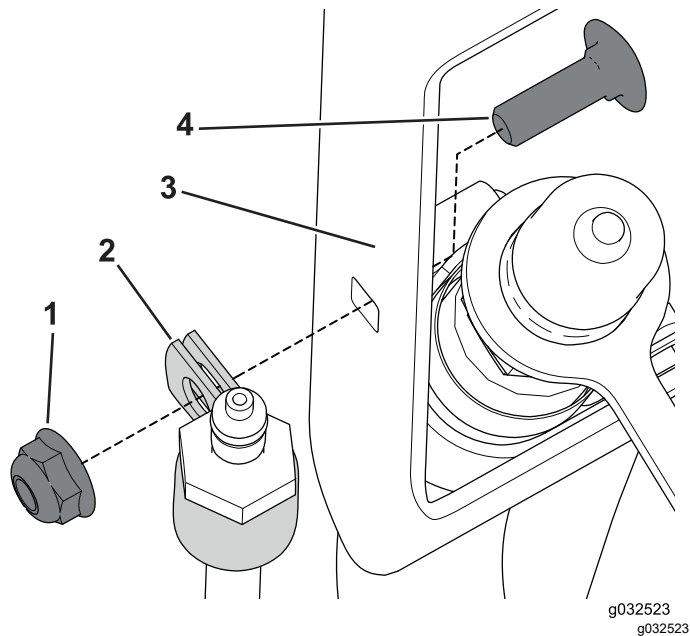

Figure 36
- 1. Arrange the R-clamp around hose connector (Figure 36).
- 2. Use the carriage bolt (1/4 x 3/4 inch) and nut to secure R-clamp to the hose bracket (Figure 36).